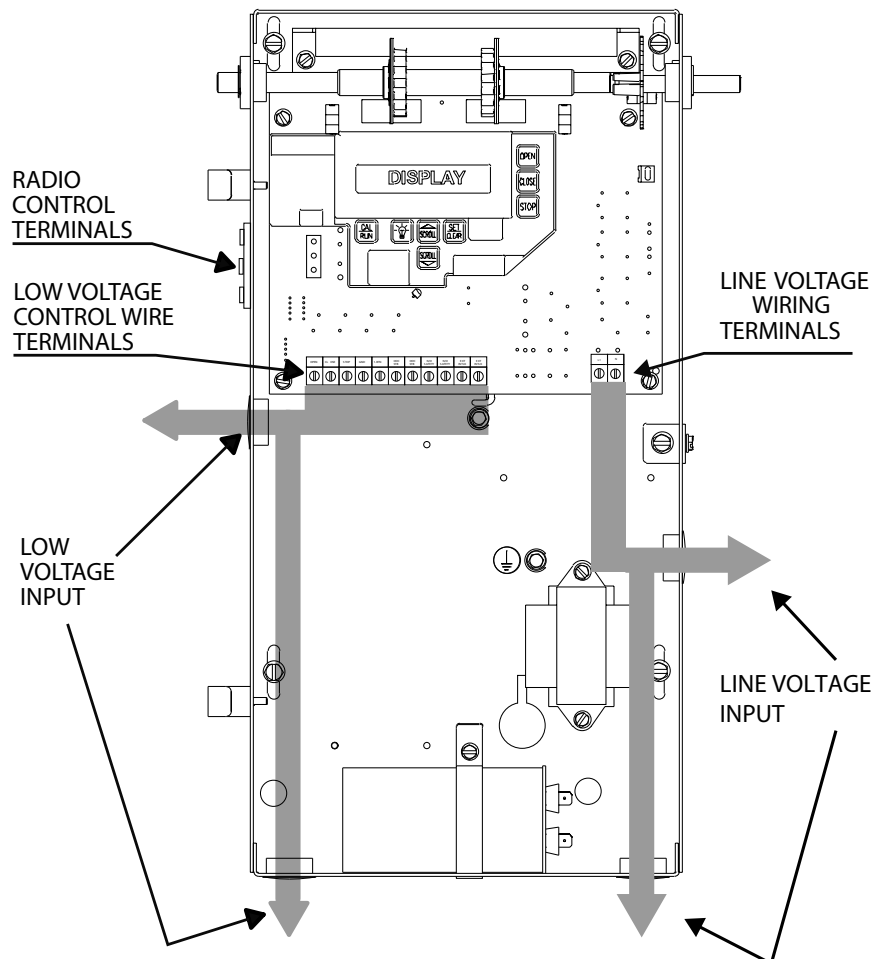

Fig.4C Wiring to TCM
1. Route control wiring as per Fig. 4C.
NOTE: If wiring connected to the I/O Warning Output applies low voltage class 2 voltages/currents, route the wiring with control wiring shown in left side of Fig 4C.
If wiring connected to this output applies line voltage, route the wiring as shown in right side of Fig 4C.